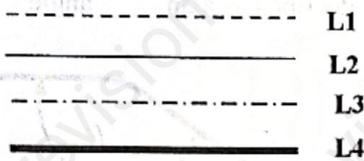

Figure 7
10. Identify the line in figure 7 below that is used as an object outline.